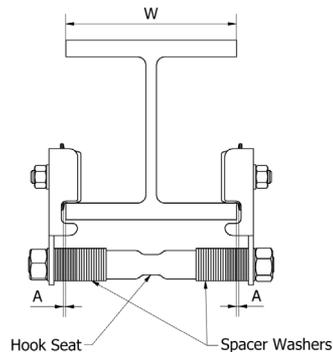

Figure 1: Push Trolley
Adjust trolley width before installation. Refer to Figure 1 below along with instructions to position spacer washers for measured beam flange width (W).